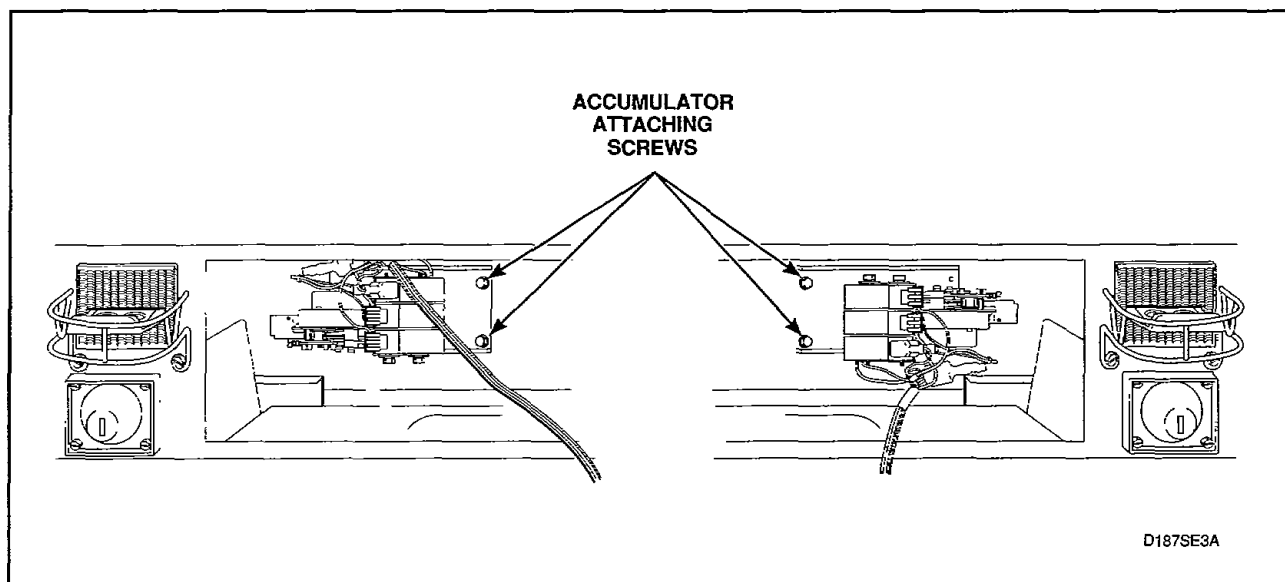

Figure 14
- d. Reach in through control panel opening and remove screws holding accumulator and mounting bracket to the control cabinet, *Figure 14*.